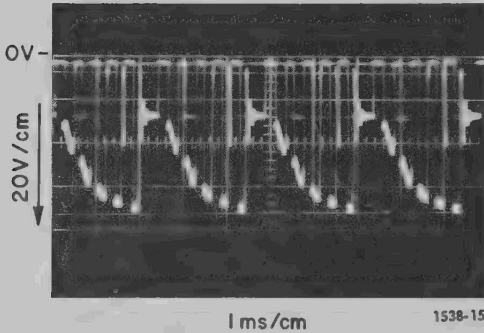

Figure 4-7. Voltage waveform at A.T.23 (24,000 RPM).
e. Compare the waveform at A.T.23 with that given in Figure 4-7. An incorrect waveform indicates a faulty 800-volt supply. Check CR504, Q510, CR503, and CR507. (NOTE: Transistor Q510 may break down, due to high-voltage pulses.)